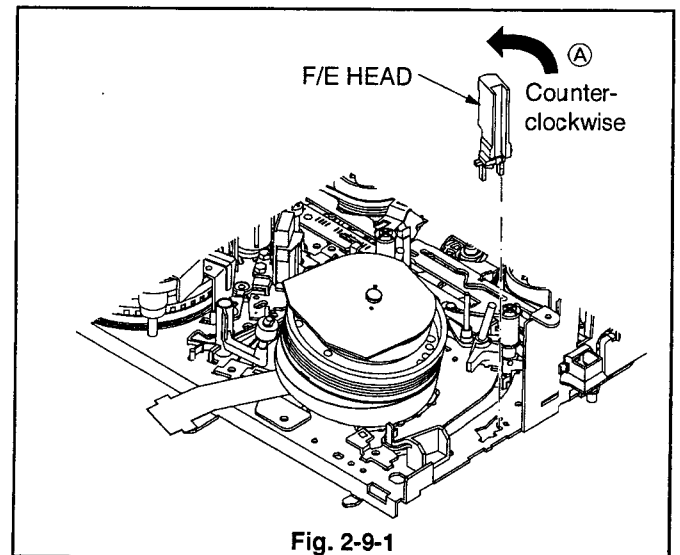

Fig. 2-9-1
1. Lift the F/E HEAD shown in the Fig. 2-9-1 in the direction by the arrow (A) to remove it.
1. Install the F/E HEAD shown in the Fig. 2-9-1.